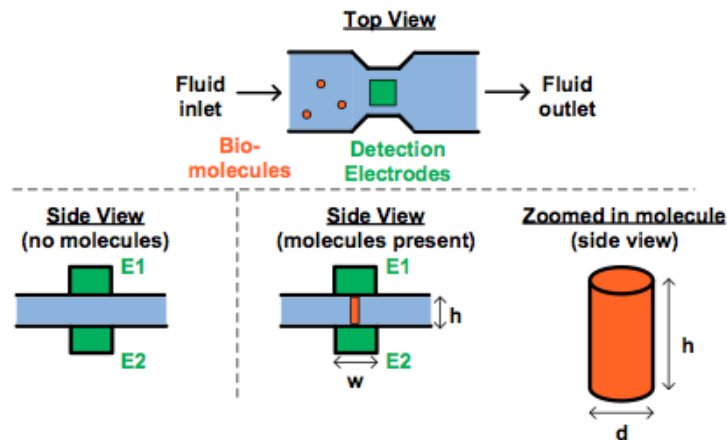

Figure 1: Bio-molecule detector.
As shown in Figure 1, the detector works by flowing a liquid that may or may not contain the biomolecules through a region in the device that has electrodes on the top and bottom of the liquid channel. The electrodes (E1/E2 in Figure 1) are chemically “functionalized” (using e.g. some appropriately designed antibodies), so that if the specific bio-molecule of interest is present in the fluid sample, one or more of the molecules will get physically trapped between the two electrodes (bottom right of Figure 1). After all of the fluid has been cleared out of the device (i.e., so that if there are bio-molecules present, there is only air in between the two electrodes E1/E2), we can then figure out whether or not one or more bio-molecules were trapped by measuring the resistance between the two electrodes.
- Let’s first assume that we want to detect the presence of a bio-molecule by measuring resistance. If no bio-molecule is present, what should be the resistance between E1/E2? As shown in Figure 1, if each bio-molecule is a cylinder with diameter $d = 10\text{nm}$, height $h = 100\text{nm}$, and has a resistivity $\rho = 100\mu\Omega\text{m}$, what would be the resistance between E1 and E2 if only a single bio-molecule has been trapped? Note that you can assume that the trapped molecule is exactly vertically oriented when it is trapped – i.e., the top and bottom faces of the molecule are both aligned with surfaces of the electrodes.